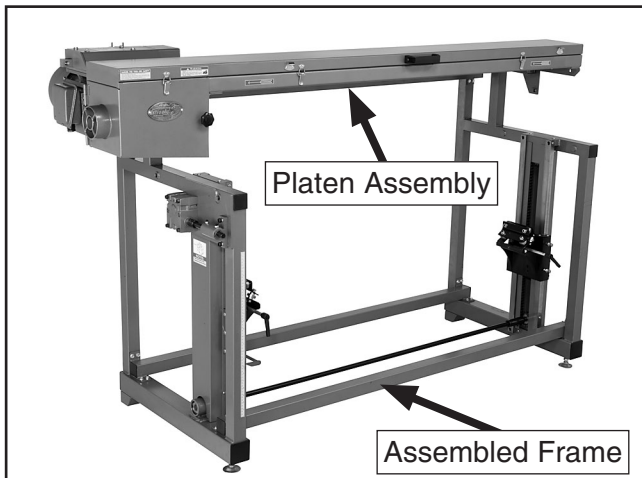

Figure 16. Platen assembly.
6. With the help of an assistant, place the platen assembly onto the assembled frame, as shown in **Figure 16**.